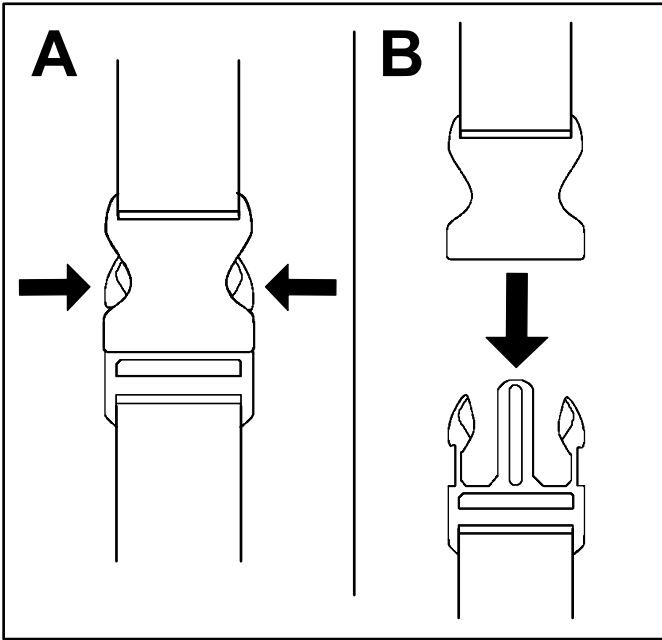

Figure 12
1. Press in on the sides of the buckle (A of Figure 12).
2. Allow the buckle to disconnect (B of Figure 12).